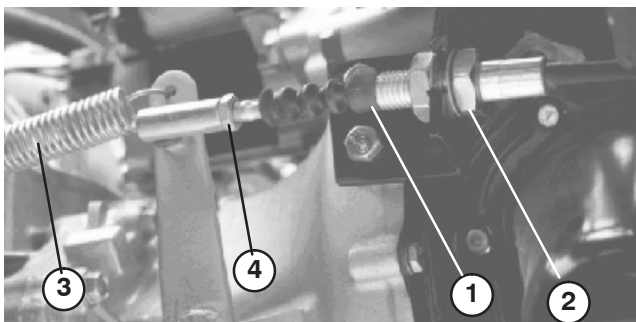

Figure 43
- Loosen the jam nuts securing the clutch cable to the bracket on the bell housing (Fig. 43).